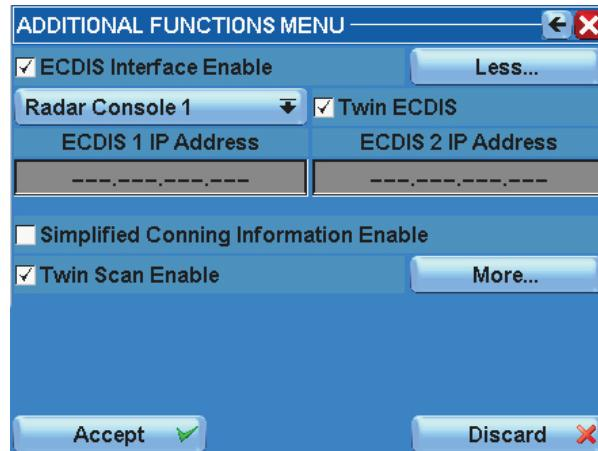

Figure 3.11.6-A
- **Simplified Conning Information Enable** (Figure 3.11.6-B)